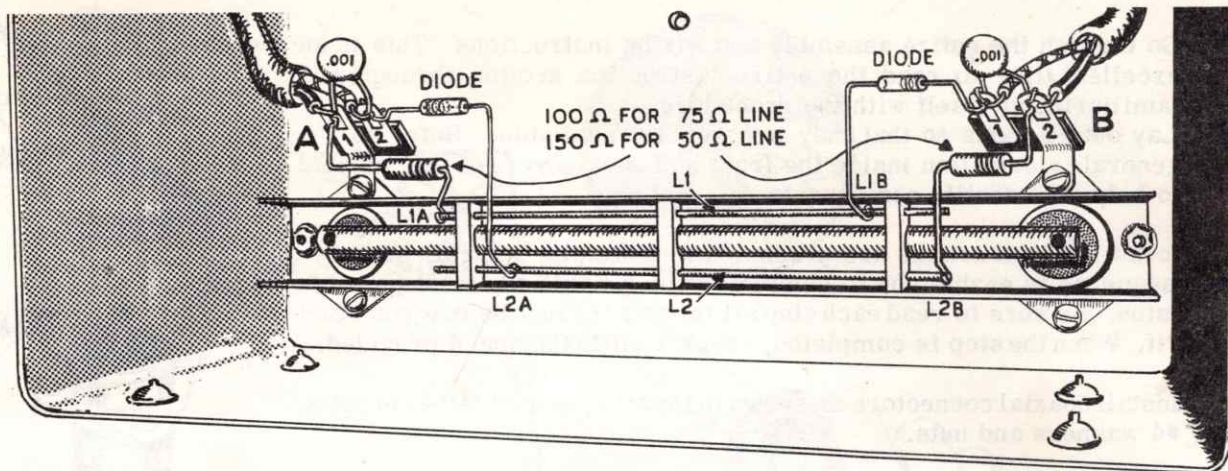

Figure 1
- (✓) Place the two pieces of #14 wire through the holes in the plastic spacers. Center the spacers and wire, allow 1/4 inch of wire outside of the end spacers for connection of parts. Refer to Figure 1 (completed bridge). Spacers may be held in place with a tiny dot of nail polish, household or model cement.
- (✓) Temporarily fasten the 2-lug terminal strips to the coax connectors at points A and B. Use 1/4" 4-40 PHMS and #4 nuts. Observe closely that the terminal strips are reversed physically and must conform with Figure 1.
- (✓) Cut and form the leads of one of these resistors to conform with Figure 1. Connect one end to A1 (NS). Connect opposite end to L1A (S-1). A solid "tacking" technique is adequate. Solder the resistors to the end of the pickup link.
- (✓) Connect the lead nearest the red band to A2 (NS).
- (✓) Bend the leads of the remaining resistor of the set selected as shown in Figure 1.
- (✓) Connect proper end to B2 (NS). Connect remaining end to L2B (S-1). May be "tacked".
- (✓) Bend the leads of the second diode to conform with Figure 1, observe red band (cathode) marking.
- (✓) Connect the lead nearest the red band to B1 (NS).
- (✓) Cut both leads of a .001 disc ceramic capacitor to approximately 3/8". Insert one lead in A1 lug (NS) and the other lead is inserted at A2 lug (NS). Crimp ends of leads lightly.
- (✓) Duplicate above step with the remaining .001 disc ceramic except install it at B1 and B2. Refer to Figure 1 on the above steps.
- (✓) Remove the #4 nuts which temporarily held the 2-lug terminal strips and install the completed bridge in the cabinet. Install assembly to conform with Figure 1. Use 1/4" 4-40 PHMS, #4 lockwashers and #4 nuts.